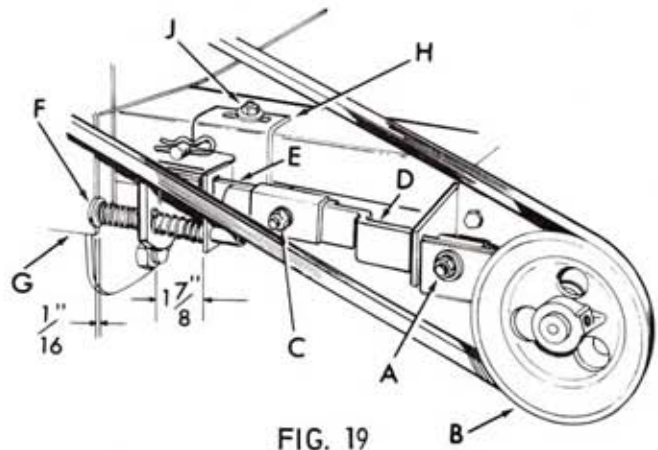

FIG. 19
Refer to Fig. 19. The purpose of the brake is to stop the blades quickly. With belt tightener lever engaged (lever pushed all the way forward) hold brake shoe (A) tight against groove in sheave (B). Then loosen bolt (C) in brake bar from (D) and rear brake bar weldment (E). Adjust brake bars so that push rod (F) clears front of tractor frame (G) by  $1/16''$ . Retighten nut securely. Adjust rear brake bar bracket (H) so that front spring is compressed to about  $1-7/8''$  long. Tighten nut (J) securely.
Refer to Fig. 19. Disengage clutch, start engine, and engage and disengage attachment clutch lever several times to make sure brake is stopping blades properly. If it does not, lengthen brake bars front (D) and rear (E) and tighten nut (C) securely.